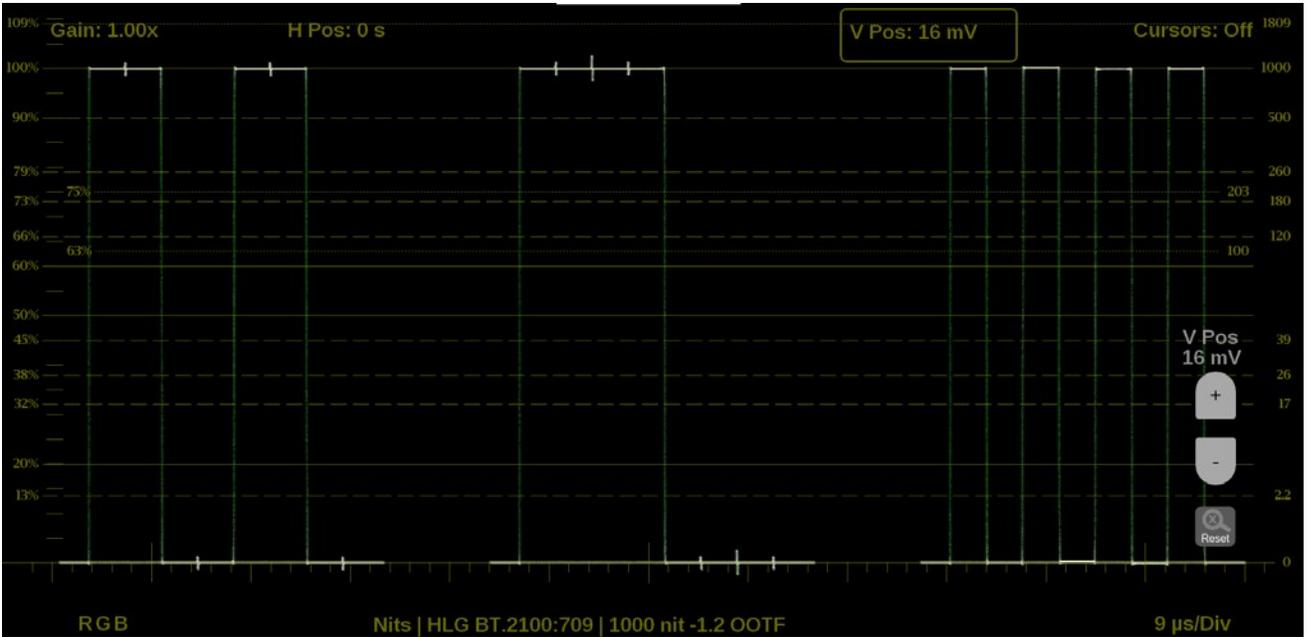

Figure 87: Waveform on-screen tools – vertical position
2. Select the **V Pos** button to adjust the vertical trace. (See Figure 87.)